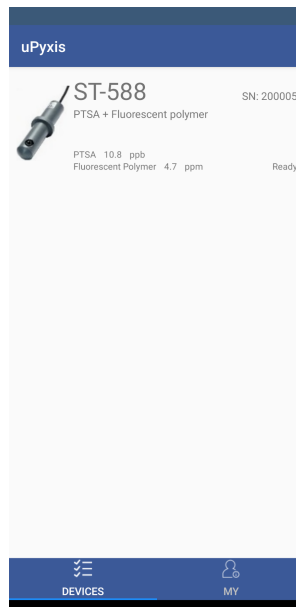

Figure 6.
3. If the connection is successful, the ST-588 and its Serial Number (SN) will be displayed (Figure 6).